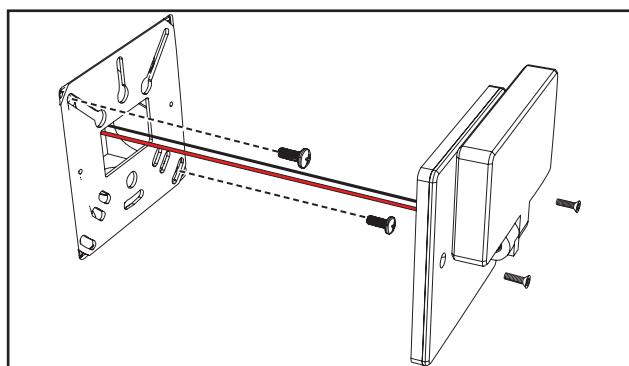

Figure 2.
4. Push all wiring and driver into the junction box. Keep line voltage and driver output leads separated. Place the mounting plate over the junction box and secure with two screws. (Figure 2.)